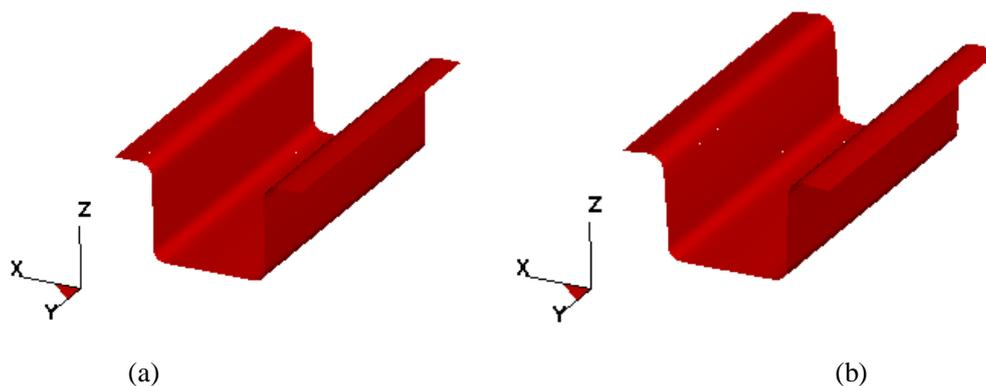

Figure 6.19 Springback results (a) before (b) after
1. Observe the springback change in the post process. There only are two frames in the file of d3plot. Figure 6.19 shows the blank shape before springback and after springback.